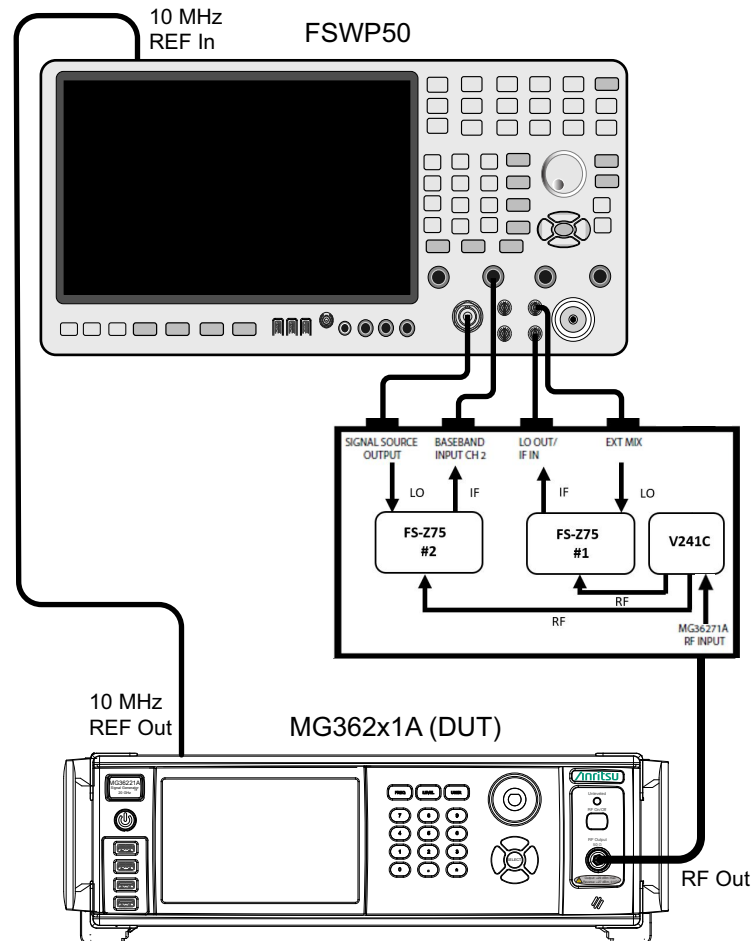

Figure 3-6. MG36271A Phase Noise Test
- f. Connect the MG36271 as shown in Figure 3-6.